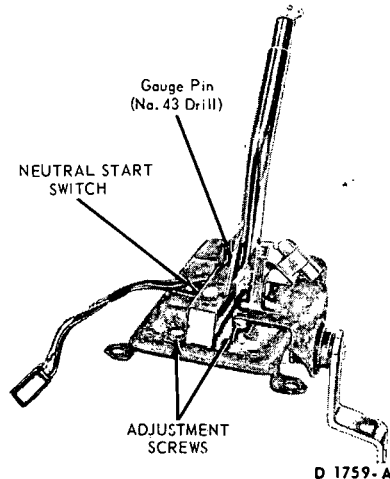

FIG. 21—Starter Neutral Switch—Console Shift
6. Loosen the two combination starter neutral and back-up light switch attaching screws (Fig. 21).
7. Move the selector lever back and forth until the gauge pin (No. 43 drill) can be fully inserted into the gauge pin holes (Fig. 21).
7. With the selector lever in neutral, move the selector lever back and forth until the gauge pin (No. 43 drill) can be fully inserted into the gauge pin holes (Fig. 21).